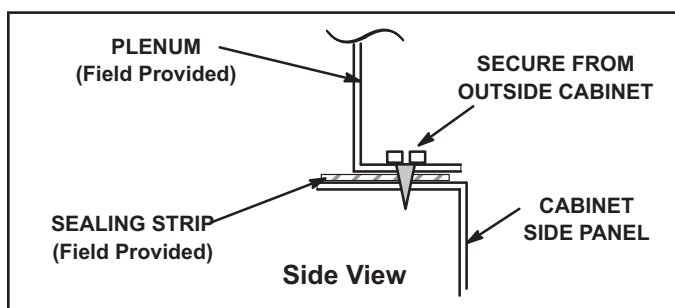
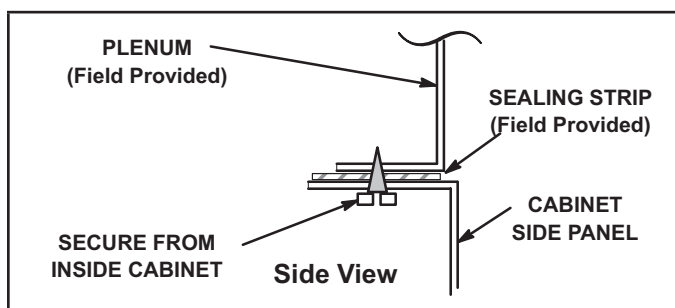

FIGURE 17
FIGURE 18
- 1 - Bottom edge of plenum should be flanged with a hemmed edge (See **FIGURE 17** or **FIGURE 18**).